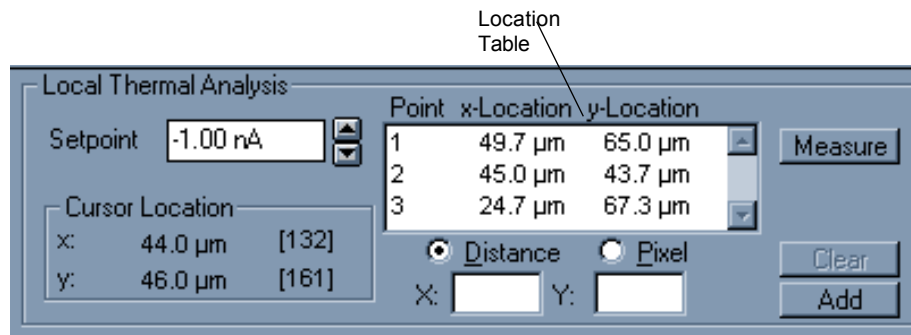

Figure 5.23
2. Click on the location that you want analyzed. The coordinates of the location you have chosen are then displayed in the **Location Table**, as shown in Figure 5.23.
You can use the **Set point** field on the **LTA** window (see Figure 5.23 or 5.24) to change the force that the probe applies to the surface during an LTA experiment. More positive set point values apply larger forces, and more negative set point values apply smaller forces.